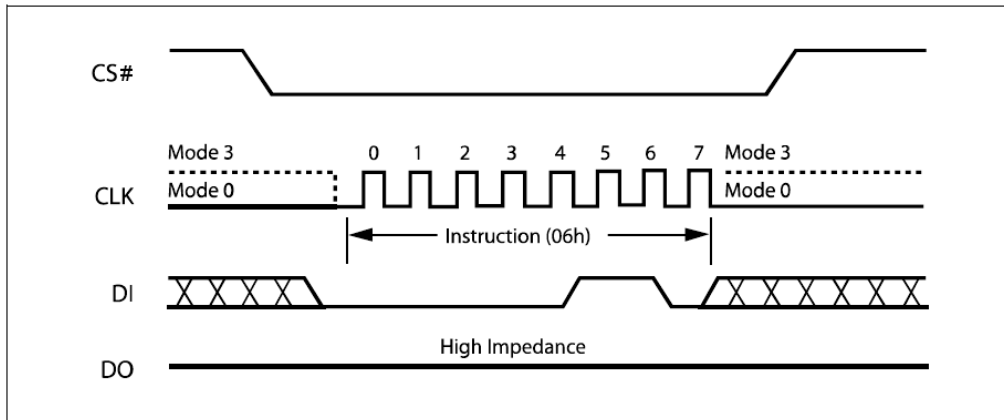

Figure 8. Write Enable Instruction Sequence Diagram
The Write Enable (WREN) instruction (Figure 8) sets the Write Enable Latch (WEL) bit. The Write Enable Latch (WEL) bit must be set prior to every Page Program (PP), Quad Input Page Program (QPP), Sector Erase (SE), Block Erase (HBE/BE), Chip Erase (CE) and Write Status Register (WRSR/WRSR3/WRSR4) instruction.